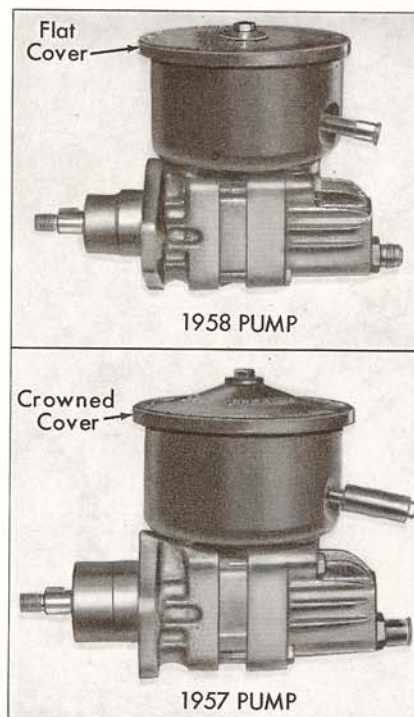

Fig. 10
**T**HE 1958 type power steering pump assembly was used in place of the 1957 pump on a few 1957 cars after approximately Engine Number 146566. The 1958 pump has a flat cover, which distinguishes it from the 1957 pump having a crowned cover, as illustrated in Fig. 10.